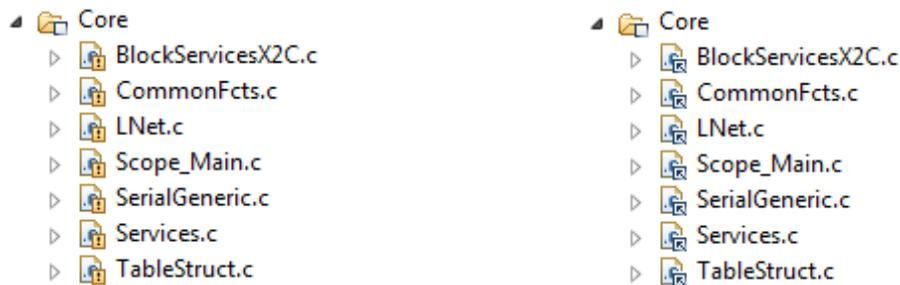

Figure 27: *Code Composer Studio* invalid (left) and valid (right) *X2C* root directory
3. In the *Code Composer Studio* file structure of the *Blinky* demo project there are two virtual folders *Blocks* and *Core*, which should be linked directly to the *X2C* directory. To ensure this go to **Project** → **Properties** drop down **Resource** and click **Linked Resources**. Double click on folder **X2C\_ROOT** and set the correct link to your *X2C* installation directory (<X2C\_ROOT>). After hitting **OK** two times there should not be any warning signs (like shown in Figure 27) at the icons for the linked files in the *Blocks* and *Core* folders.